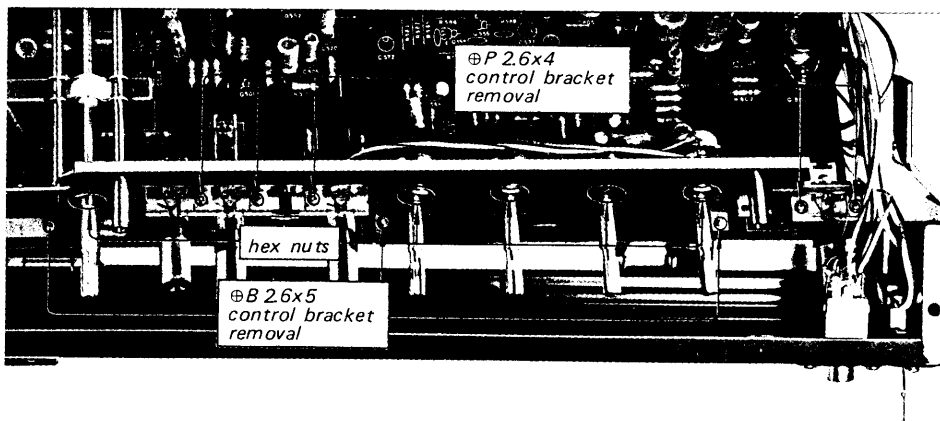

Fig. 2-17. Control bracket removal
4. Remove the five hex nuts and five screws securing all the controls and switches to the control bracket as shown in Fig. 2-17.
5. Remove the three screws securing the control bracket to the control board as shown in Fig. 2-17. This frees control bracket.